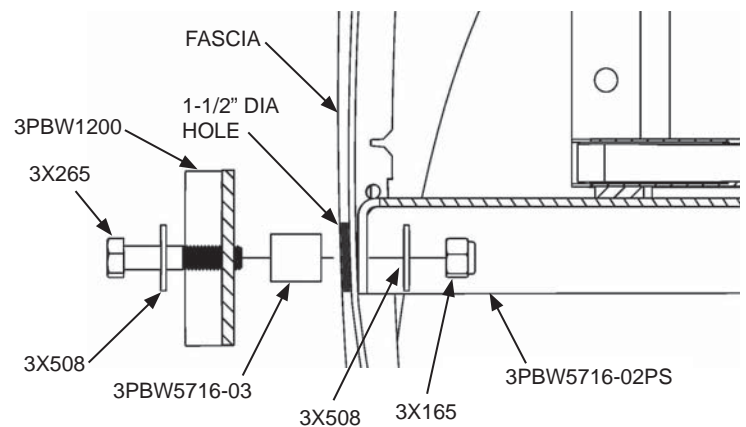

FIG. 3
- Fasten the parts together using the provided 3X265 bolt, 3X508 washers and 3X165 nut as shown in figure 3 by accessing the bracket under and through the fender liner.